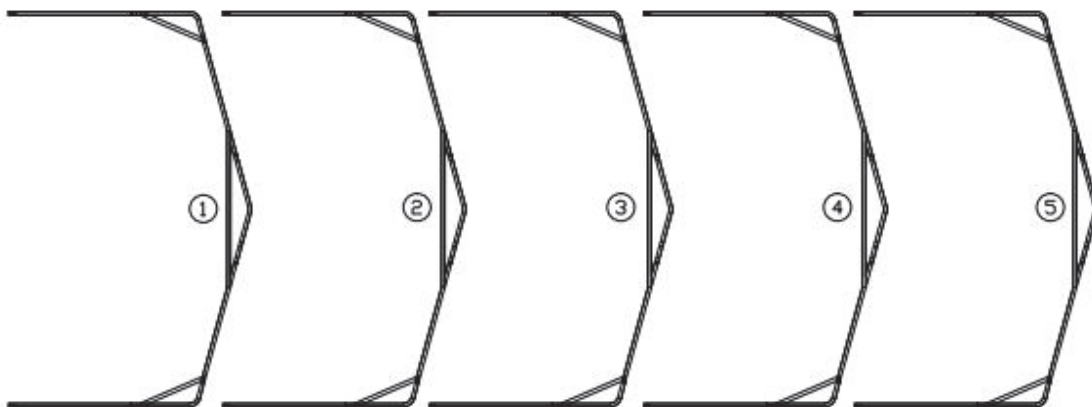

Figure 4
- Lay down all (5) trusses on the ground when the assembly is all completed and before moving to next step. (refer to Figure 4)